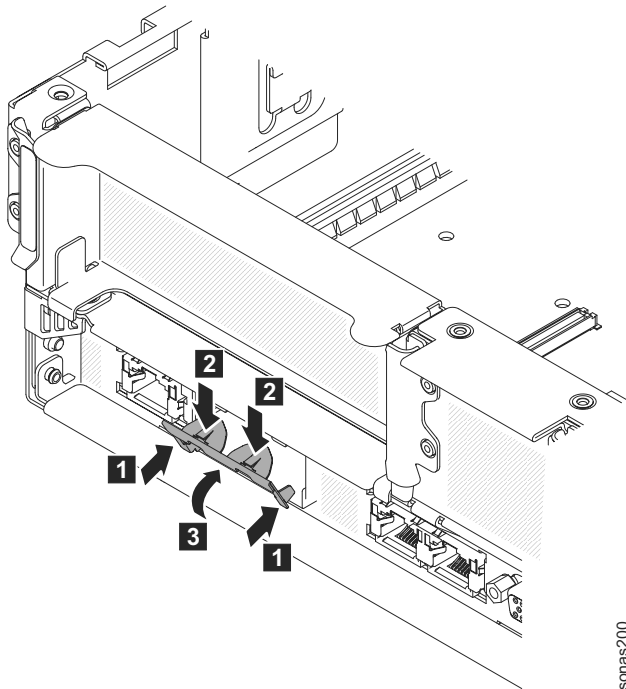

Figure 16. Location of the port openings on the chassis
7. Insert the bottom tabs of the metal clip into the port openings from outside the chassis. See Figure 16 on page 102.